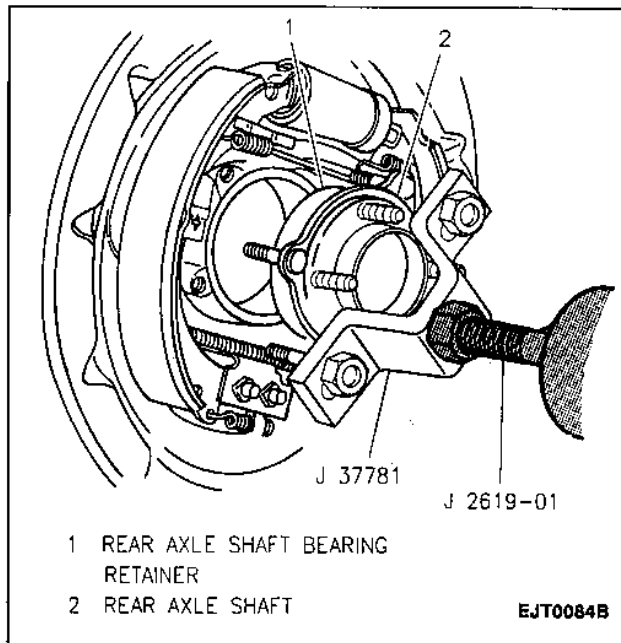

Figure 8—Removing Rear Axle Shaft
9. Rear axle shaft and bearing from rear axle housing using a J 34866 with a J 2619-01 (Figure 8).